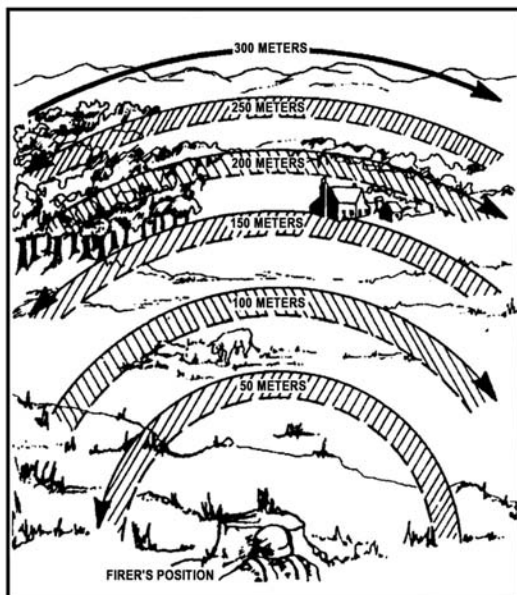

Figure 071-311-2007- 1. Searching the terrain in overlapping strips
(1) Natural cover and concealment.
(2) Good observation and fields of fire.
c. Perform a systematic search. If you do not identify activity during your quick check, search the terrain in overlapping strips (figure 071-311-2007-1).